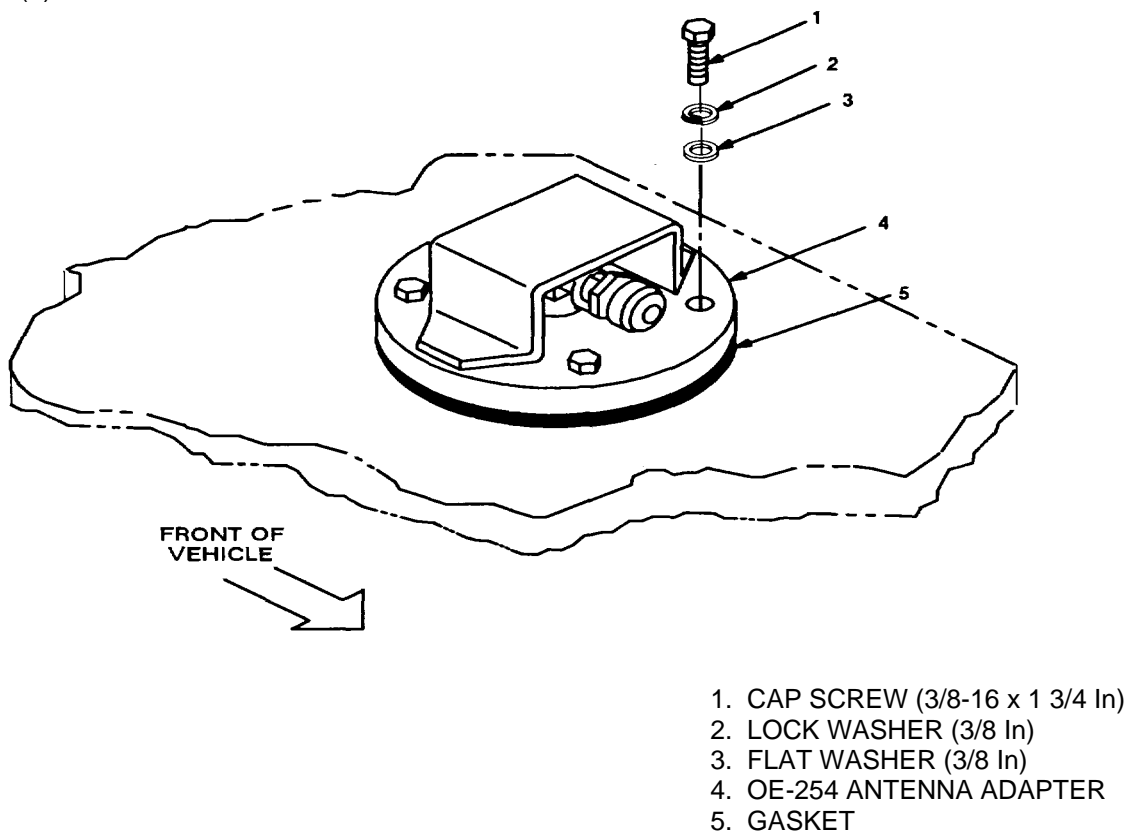

Figure 5-4. OE-254 Antenna Adapter Installation: Middle Roadside Port
b. Gasket (5).	Apply a thin coat of silicone compound to both sides. Place on port and aline mounting holes. See figure 5-4.
c. OE-254 antenna adapter (4).	Place on top of gasket (5) and port; then aline holes with mounting holes.
d. Four cap screws (1), four lock washers (2) and four flat washers (3).	Install and secure to antenna port.	Tools: 9/16 in socket.